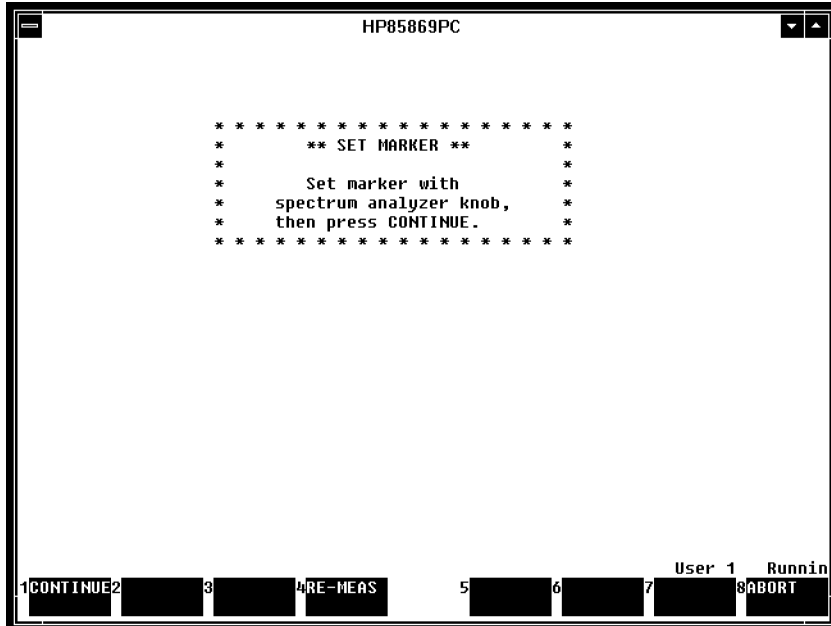

Figure 7-21. Manual Mode using the Quasi-Peak Measurement - At Peak Option
5. After tuning the marker to some point on the spectrum analyzer and pressing the **MANUAL MEAS** softkey, a display similar to Figure 7-21 appears on your computer display.